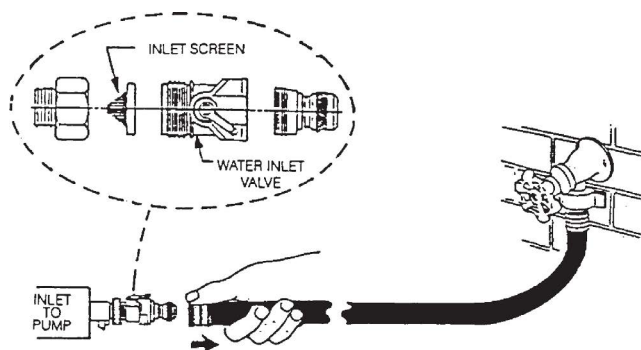

FIG. 2
Spartan Tool equipment must be grounded while in use to protect the operator from electrical shock. Spartan Tool equipment comes with a three-conductor cord and a three-prong grounding-type plug to fit the properly grounded receptacle. The green (or green and yellow) conductor in the cord is the grounding wire. Never connect the green (or green and yellow) wire to a live terminal. Your unit is for use on 120V, it has a plug that looks like that shown in Fig. A. An adapter (see Fig. 2 and 3) is available for connecting Fig. A type plugs to a two-prong receptacle, except in Canada.
2. The inlet screen must be cleaned before each use to avoid damage to the pump. To clean the inlet screen, remove the hose by pulling back on the disconnect fitting at the water inlet valve (see Fig. 2). Remove the water inlet valve and screen. Rinse the screen thoroughly with water. Replace the screen, water inlet valve and hose.